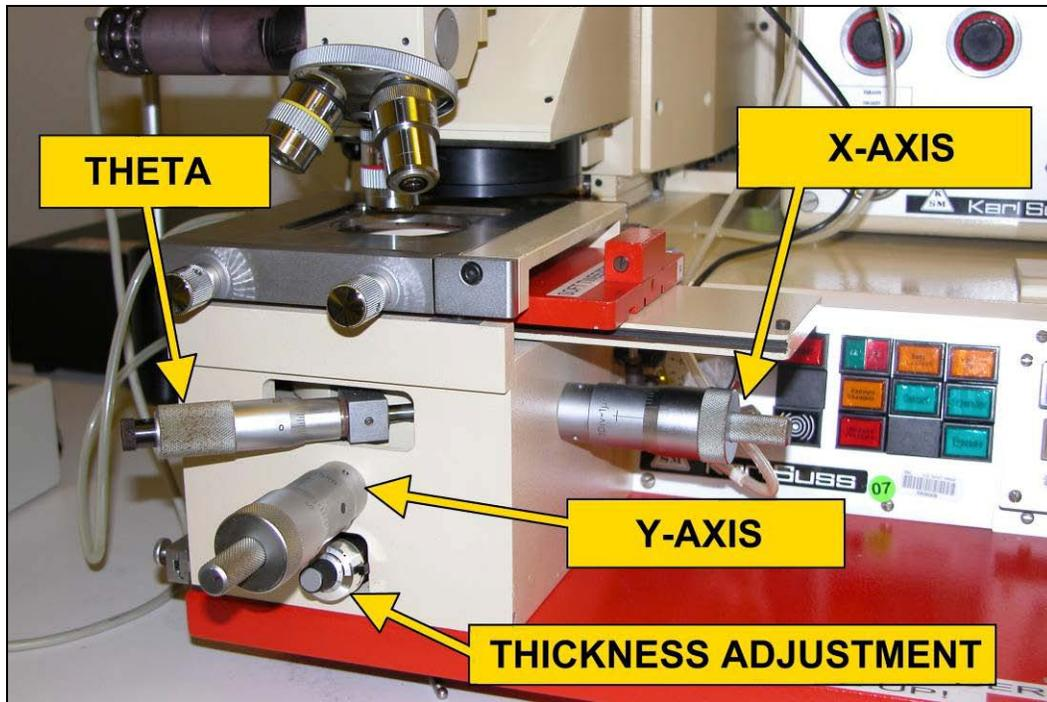

Figure 9-7
STEP 4- *Align substrate and mask.* To align substrate it must be removed from contact with the mask. Pull the separation level toward the front of the tool until sufficient separation is obtained. The CONTACT light will go out and the SEPARATION light will illuminate. Now the substrate can be aligned to the mask using the X, Y, and THETA micrometers (Figure 9-7). The X and Y micrometers contain both a coarse and fine adjustment. The aligner is equipped with a standard field microscope. The two objectives are aligned to two alignment features on opposite sides of the substrate using the microscope joystick and the objective separation controls. The upper button on the joystick handle controls the Y motion, lower the X motion, and it can be moved in any direction by holding both down simultaneously. Once satisfactory alignment is obtained move the substrate back into contact with the mask by pushing the separation lever all the way to its rearmost position. The SEPARATION light will go out and CONTACT will illuminate. Always double check that alignment has been maintained in CONTACT mode. If not separate mask and substrate and reposition until CONTACT mode is adequately aligned.